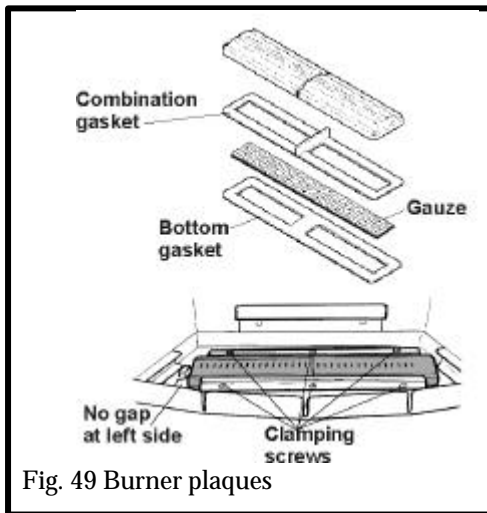

Fig. 49 Burner plaques
13.11 To replace burner plaques (see figure 49)